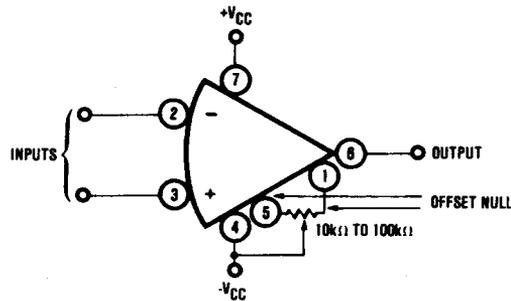

FIGURE 4. Offset Null Circuit.
3.3.2 Offset null. The amplifier is capable of being nulled to zero offset voltage using the circuit in Figure 4. If nulling is unnecessary for the application, delete the three components and make no connections.